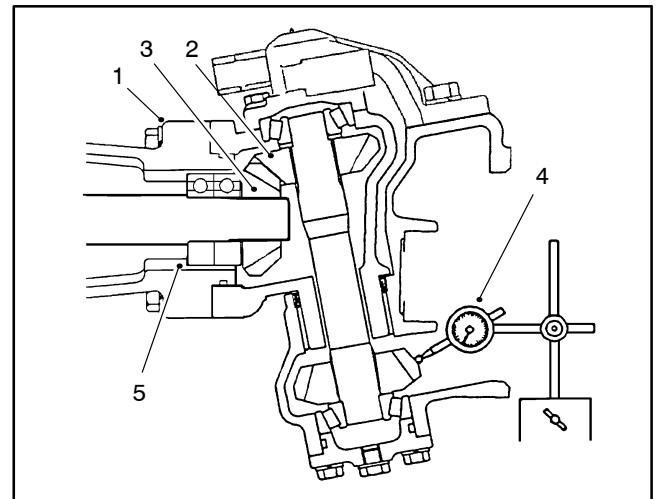

Figure 26
7. Temporarily install the bevel gear case/axle case assembly on the axle support. Position a dial indicator at the teeth center. Prevent the axle from turning and measure the upper bevel gear to differential shaft gear backlash (Fig. 26).